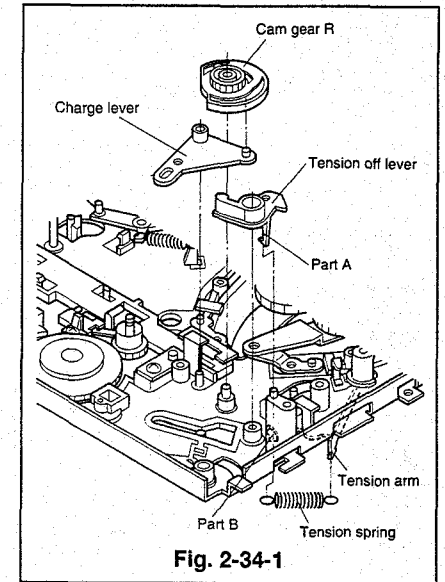
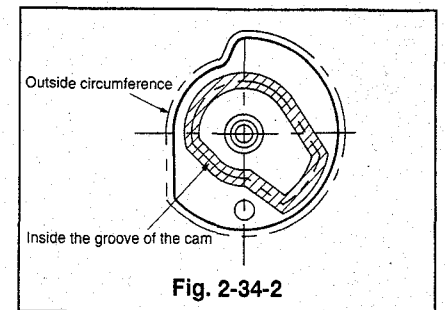
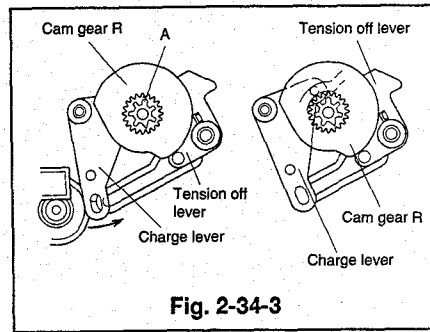
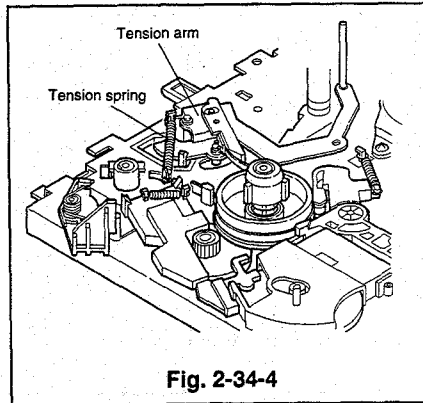

Fig. 2-34-1
Fig. 2-34-2
Fig. 2-34-3
Fig. 2-34-4
- ① Remove the cassette housing. (Refer to Para. 2-1 for the installation method.)
- ② Turn the deck the right side up and detach the tension spring. (Refer to Fig. 2-34-4.)
- ③ Remove the charge assembly. (Refer to item ② of Para. 2-18 for the removal method.)
- ④ Remove the reel belt and the pulley belt. (Refer to Para. 2-28 for the removal method.)
- ⑤ Remove the loading motor assembly (which holds the motor holder). (Refer to Para. 2-29 for the removal method.)
- ⑥ Remove the main gear J. (Refer to Para. 2-30 for the removal method.)
- ⑦ Remove the plate J, the roller B, and the cam plate B. (Refer to Para. 2-33 for the removal method.)
- ⑧ Raise the cam gear R upward to remove it. (Refer to Fig. 2-34-1.)
- ⑨ Remove the charge lever. (Refer to Fig. 2-34-1.)
- ⑩ Remove the tension off lever. (Refer to Fig. 2-34-1.)
- ① Let part A pass through part B shown in Fig. 2-34-1 to install the tension off lever.
- ② Fix the charge lever to the shaft.
- ③ Apply grease (PG-641) [859D055O30] to the area shown in Fig. 2-34-2 of the new cam gear R. (The groove and the flank of the outside circumference.)
- ④ Insert the cam gear R so that part A is on the upside, with the charge lever set fully to the right end. Slowly turn the charge lever in the direction shown by the arrow until it enters the groove in the cam gear R. (Refer to Fig. 2-34-3)
- ⑤ Install the cam plate B, the roller B, and the plate J. (Refer to Para. 2-33 for the installation method.)
- ⑥ Install the main gear J. (Refer to Para. 2-30 for the installation method.)
- ⑦ Install the loading motor assembly (which holds the motor holder). (Refer to Para. 2-29 for the installation method.)
- ⑧ Install the belt pulley and the reel belt. (Refer to Para. 2-28 for the installation method.)
- ⑨ Hook the tension spring in the position shown in Fig. 2-34-4.
- ⑩ Install the charge assembly. (Refer to Item ⑤ of Para. 2-18 for the installation method.)
- ⑪ Install the cassette housing. (Refer to Para. 2-1 about the installation method.)